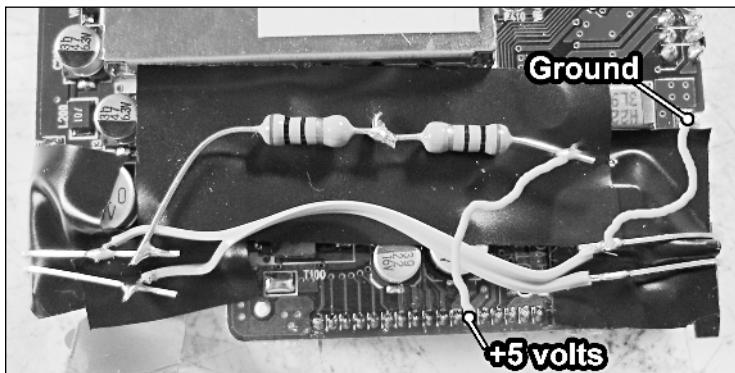

FIGURE 4-11: The LEDs connected in parallel, the resistors connected in series, and the power/ground spots.
6. Place the screen assembly facedown. Cut a couple of small pieces of electric tape and place them between the LEDs, as shown in Figure 4-11. Bend the LED leads back around these pieces to keep them from touching anything that might cause a short circuit.
8. Next, take your two 10-ohm resistors and wire them in series, as shown in Figure 4-11. Connect one end of the resistor pair to one of the LED's positive leads (the longer lead is positive). The back of the screen should now appear as shown in Figure 4-11.
Before we continue, I want to talk about what we just did here. The A/V jack has a small switch inside it that connects to the three terminals on the end (two of which were used in Step 1). When a plug is inserted, the switch goes on, telling the TV to accept an external video input. Since the switch has been removed, we had to solder spots D and E together on the board to simulate this. However, you can also use this switch to turn something off—which is what we did in Step 1. Positive voltage is sent into the unconnected wire in Figure 4-11, which then goes to the A/V jack. If no plug is inserted, the power continues through the other wire and into the TV itself, turning it on. This is useful because if you use the A/V jack for an external video output, it'll automatically turn off the system's built-in TV when you insert the plug. All right, with that off my chest let's continue.